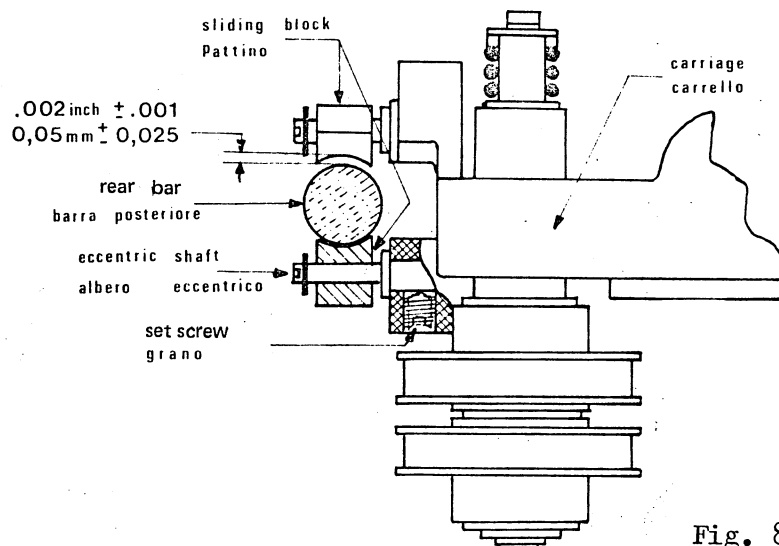

Fig. 8-25
- . Loosen the set screw on the eccentric shaft (fig. 8.25)
- . Act on the eccentric shaft till the required condition is obtained (fig. 8.25)